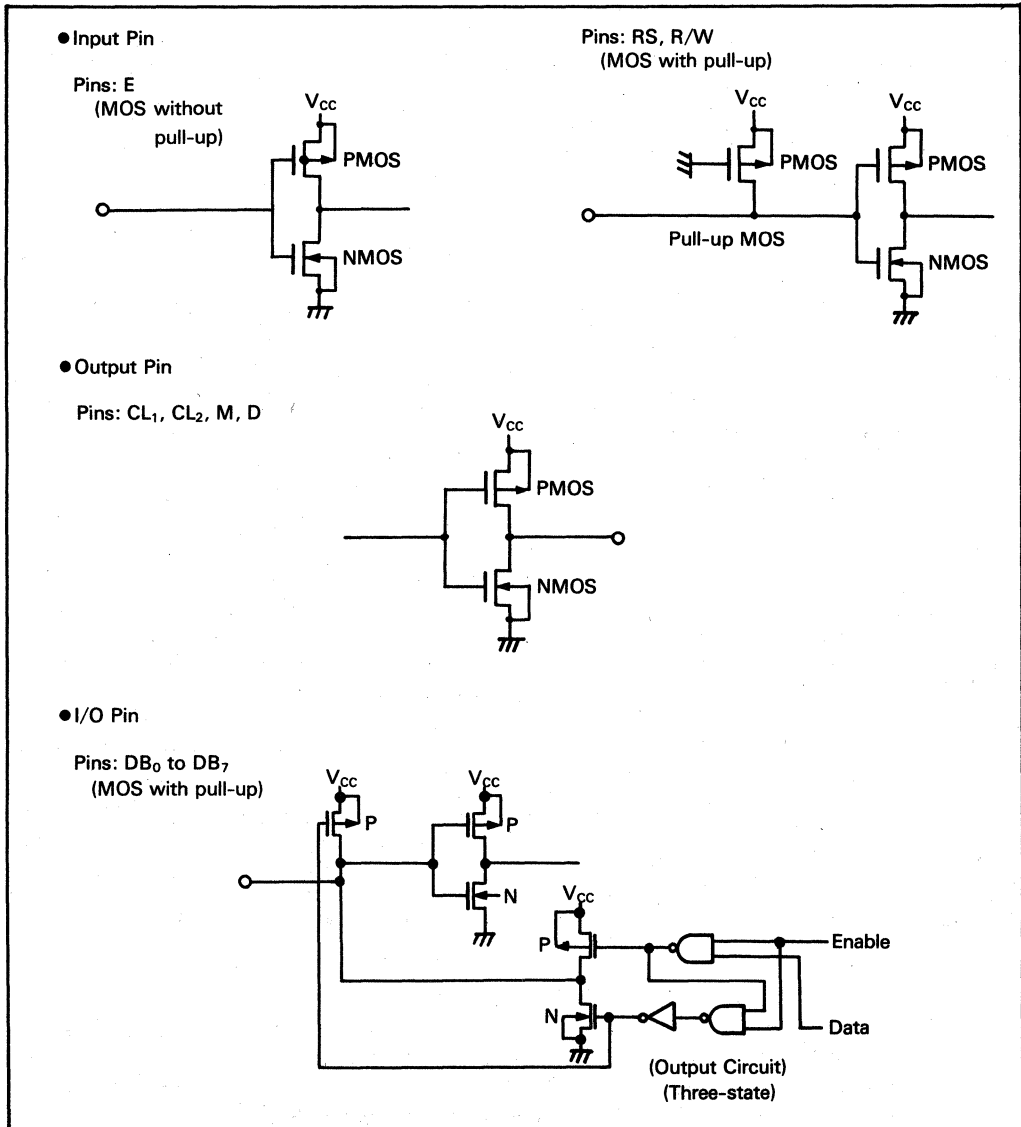

Figure 43 Pin Configuration
- Notes: 1. Figure 43 shows the I/O pin configurations except for liquid crystal display output.